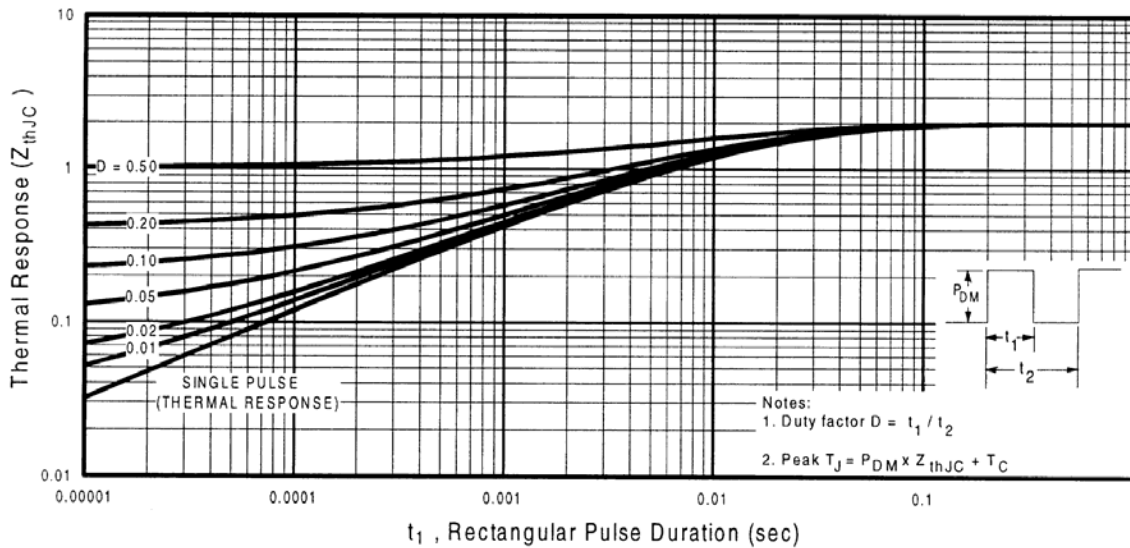

Fig 11. Maximum Effective Transient Thermal Impedance, Junction-to-Case
- ① Repetitive rating; pulse width limited by max. junction temperature. (See fig. 11)
- ② Starting $T_J = 25^\circ\text{C}, L = 7.0\text{mH}$